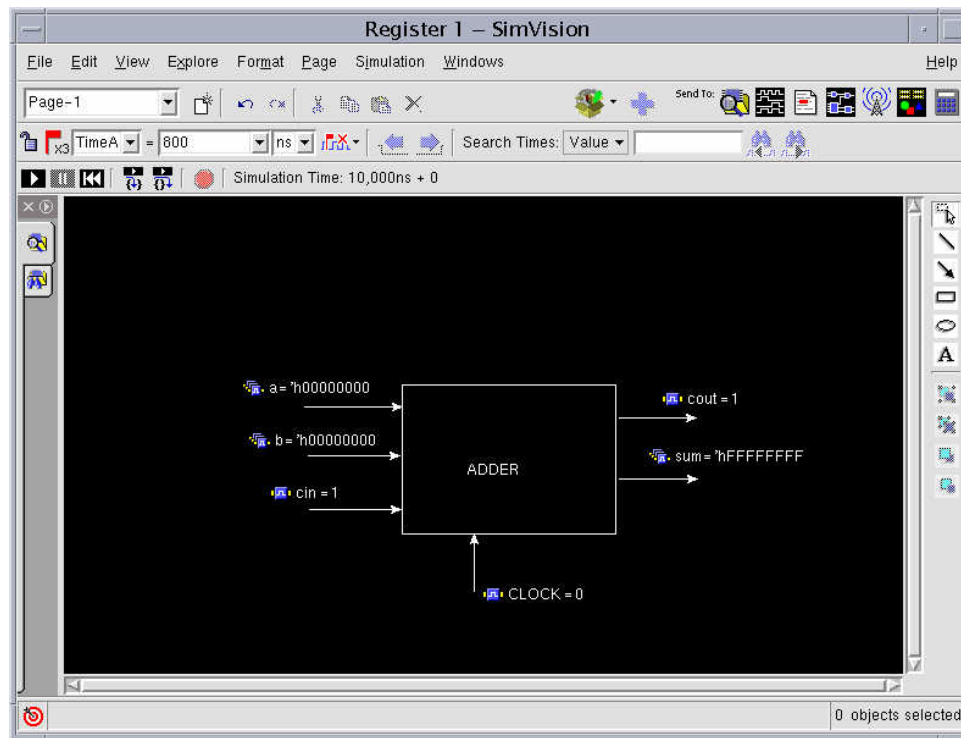

Figure 3-26 A custom layout.
3. Arrange the objects any way that user likes. For example, the layout in figure 3-26 shows the relationship between the inputs and outputs.